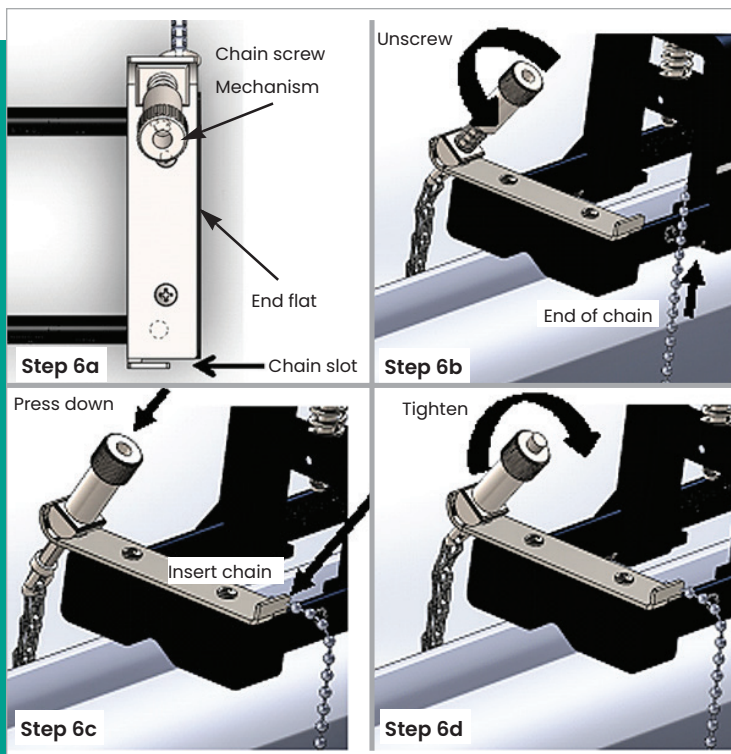

Figure 13: Installing a chain
6. To install a chain around the pipe, refer to *Figure 13* below and complete the following steps: